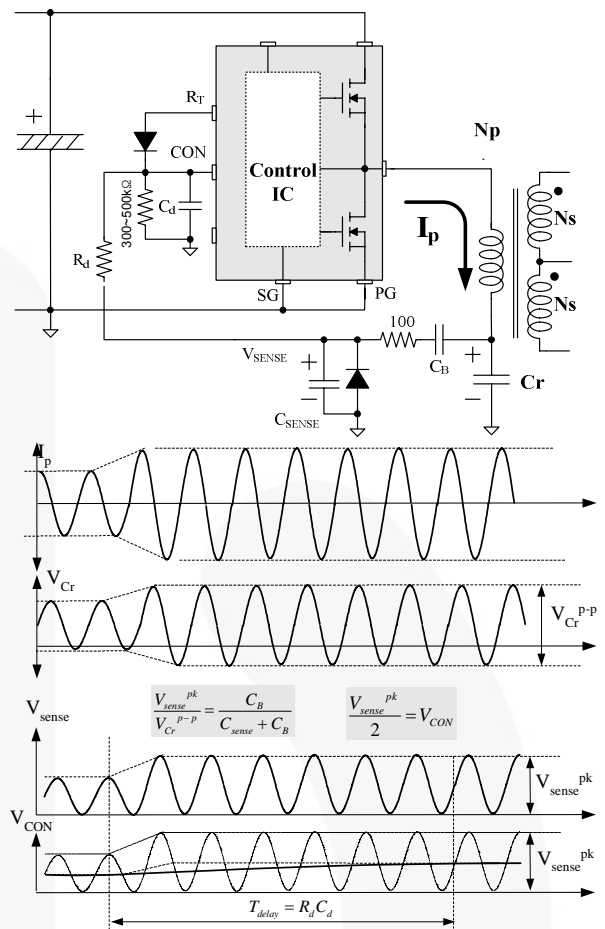

Figure 26. Current Sensing Using Resonant Capacitor Voltage
To minimize power dissipation, a capacitive voltage divider is generally used for capacitor voltage sensing, as shown in Figure 26.
**5.3 Overload Protection (OLP):** Overload is defined as the load current exceeding its normal level due to an unexpected abnormal event. In this situation, the protection circuit should trigger to protect the power supply. However, even when the power supply is in the normal condition, the overload situation can occur during the load transition. To avoid premature triggering of protection, the overload protection circuit should be designed to trigger only after a specified time to determine whether it is a transient situation or a true overload situation. Figure 26 shows a typical overload protection circuit. By sensing the resonant capacitor voltage on the control pin, the overload protection can be implemented. Using RC time constant, shutdown delay can be also introduced. The voltage obtained on the control pin is given as: